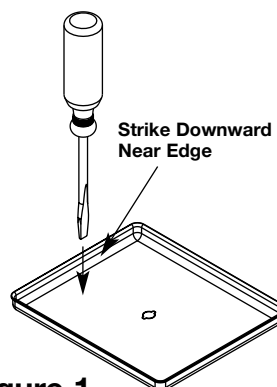

Figure 1
Step 2. Remove mudcap: (See Figure 1):